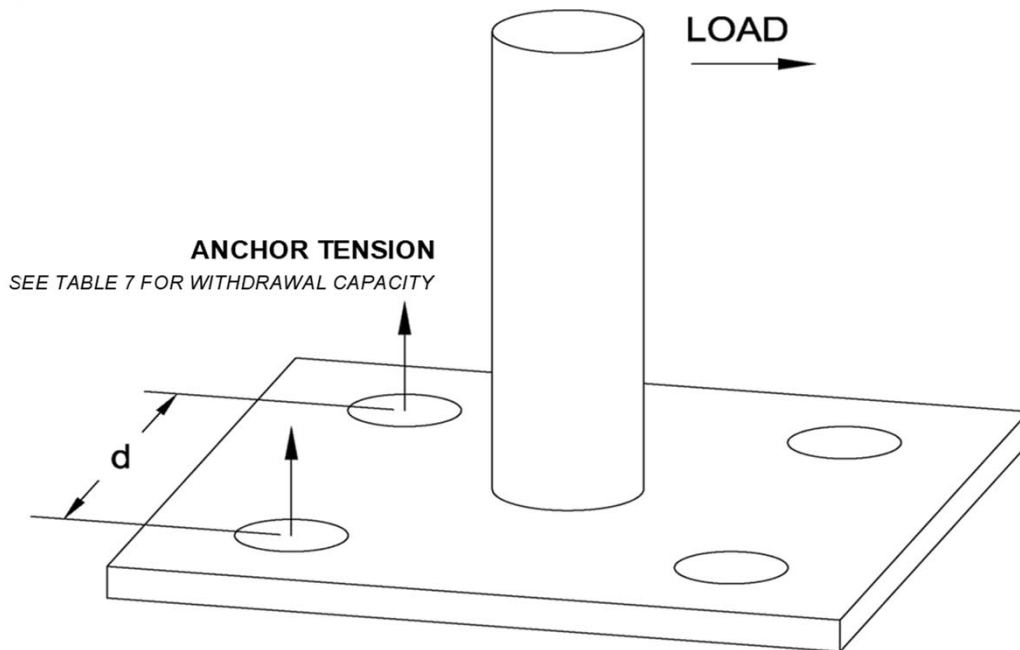

Figure 3 - Typical Toggler Bolt Application
1. TOGGLER Anchor System and peel rivet capacity is based on random anchors purchased from a distributor and have not been evaluated for installations other than that described in Table 7 and Figure 3. This **PER** verifies the USG Structural Panel Concrete Subfloor capacity only, and actual toggler anchor capacity without panel failure shall be verified by the engineer or designer of record through the SnapToggle anchor or peel rivet manufacturer.